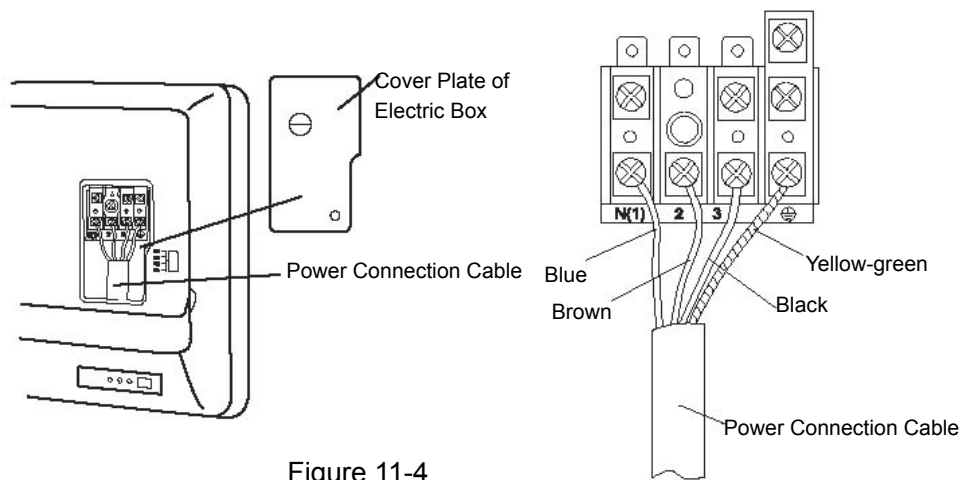

Figure 11-4
- Disassemble the cover plate of electric box and twist off the wire-pressed clamp (refer to Figure 11-4).
- Connect the blue wire of the power connection cables to the “N (1)” terminal of the terminal board, connect the brown wire to the “2” terminal, and connect the black wire to the “3” terminal and connect the yellow-green wire to the “⊕” terminal (refer to Figure 11-4).